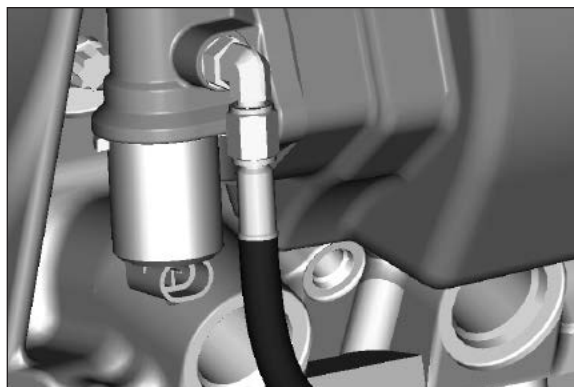

Fig. 36
9. Securely attach the high pressure line to the valve. Tighten hose end fitting 2 flats from finger tight (**Fig. 36**). If wet spline option connect hose to tee fitting on the flange. Not available for the 287 Series Installations.